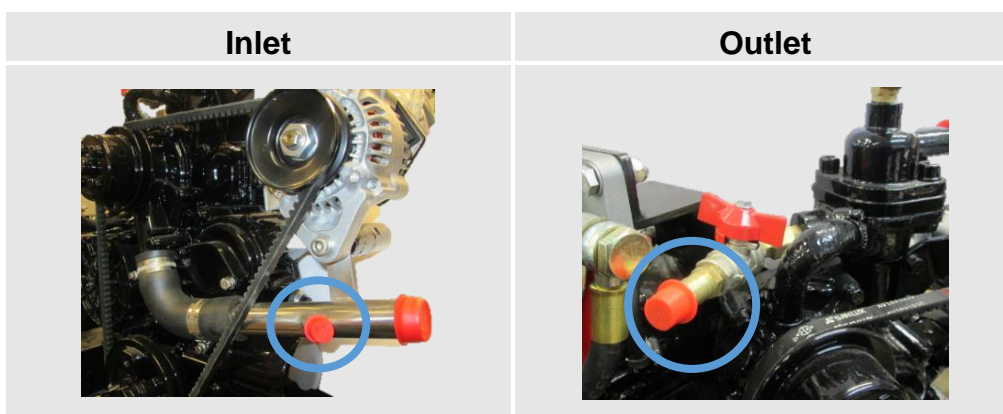

Figure 27: Position of Calorifiers on a Canal Boat
- The calorifiers are positioned as per (**Figure 27**)